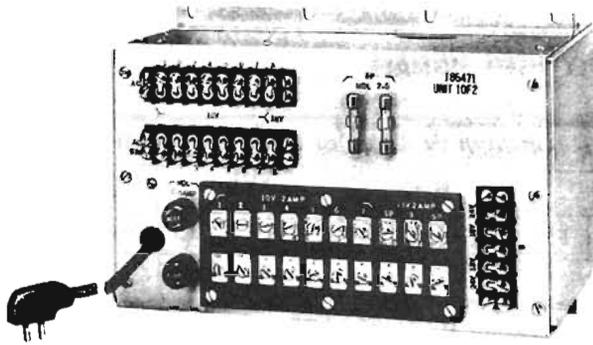
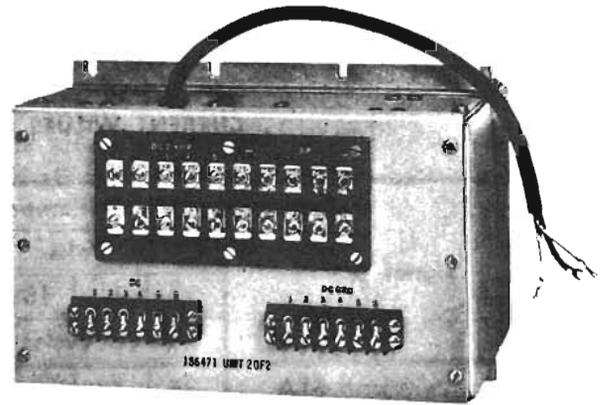

Fig. 8 - J86471A, List 1 or 3 AC Unit
Fig. 9 - J86471A, List 1 or 3 DC Unit
**7.02** The J86471A power plant consists of two units: a list 1 or 3 ac unit (see Fig. 8) and a list 1 or 3 dc unit (see Fig. 9). Lists 1 and 3 are the same mechanically and electrically. List 1 has a 162A regulator, and list 3 has a KS-15909, List 1 regulator.